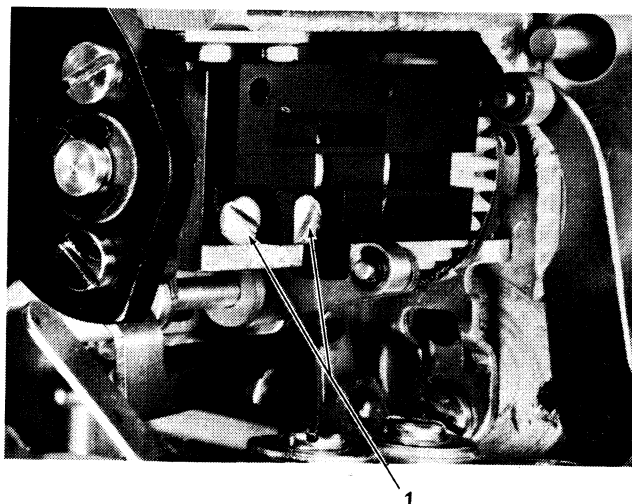

Figure 4-42. Print Feedback Removal (Circuit Board Removed)
3. Remove the two print feedback bracket mounting screws and remove the bracket (No. 1, Figure 4-42).